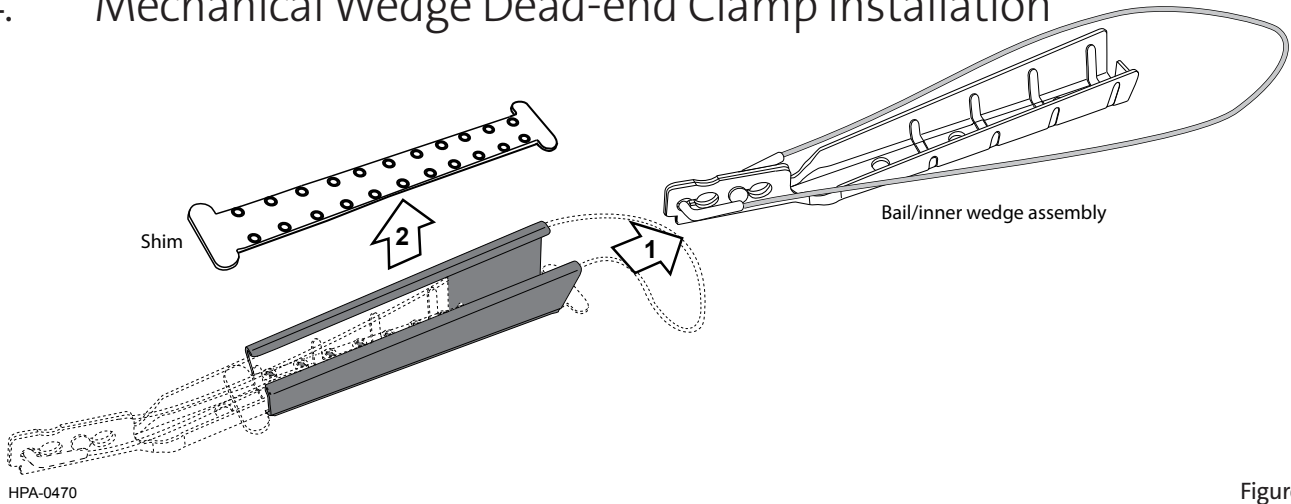

Figure 2
- Step 1:** Disassemble the factory pre-assembled dead-end clamp by sliding out the inner wedge/bail assembly and removing the shim (Figure 2).